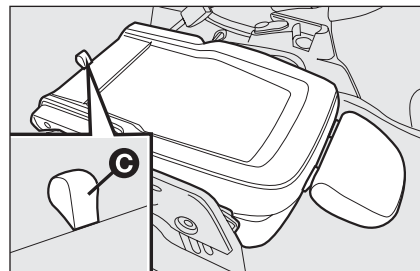

fig. 24
- ☐ pull the lever **C-fig. 24** and push the backrest down as much as possible: the seat is now completely folded.